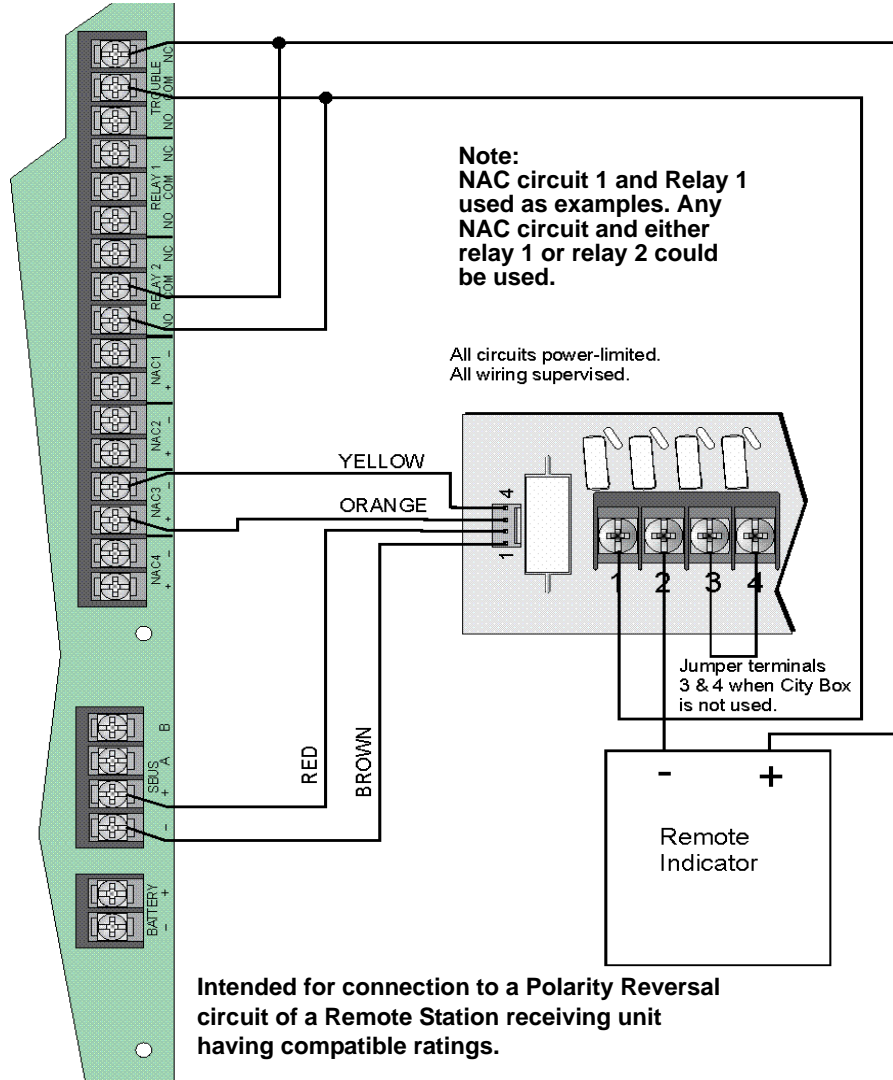

Figure 4-33 Polarity Reversal Connection Using the 5220 Module
2. Wire the 5220 to the control panel using the four-wire pigtail provided as shown in Figure 4-33. This diagram also shows how to connect the 5220 to the remote indi-